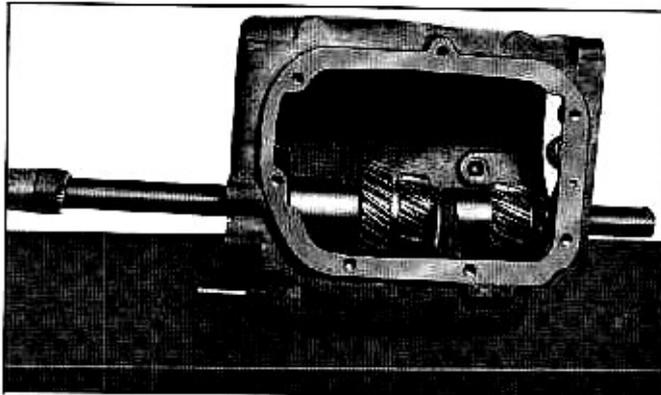

Fig. 3A—Removing Countershaft Using Tool J-22246
8. Using Tool J-22246, and a plastic hammer, drive the countershaft and its woodruff key out the rear of case. (Fig. 3A) Remove countergear, roller bearings and tanged thrust washers through rear case bore.